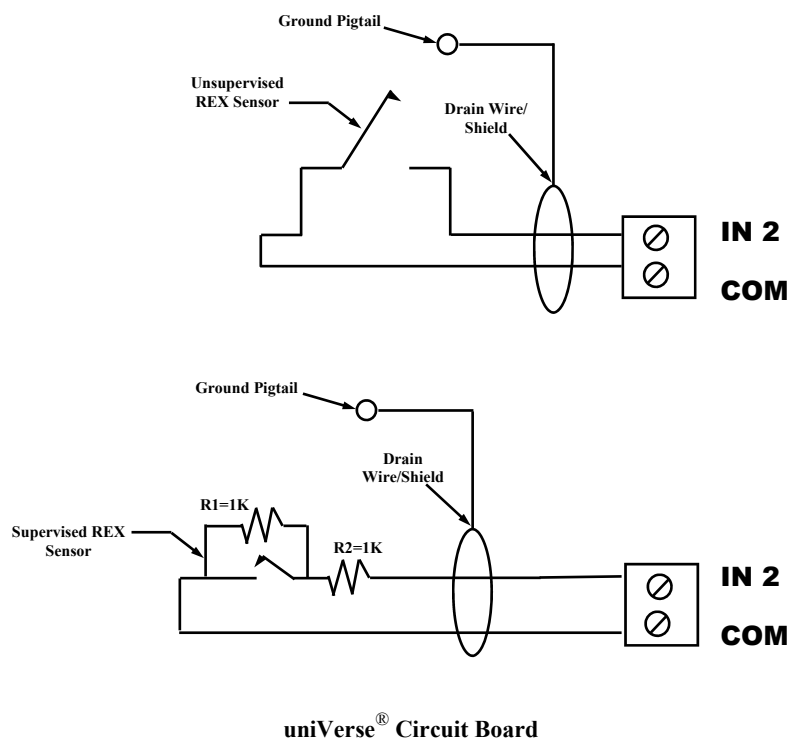

Figure 10 - Request-to-Exit Sensor to uniVerse® Connections. Plain (Unsupervised) Contacts, and Supervised Contacts
Request-to-Exit sensors (also known as Bypass sensors) work in conjunction with Door Status Sensors to provide complete facility entry and exit control. The Request-to-Exit sensor connects to the uniVerse® through any one of the four uniVerse® Input terminal strips. By default, Input 2 is used (see Figure 10).
Request-to-Exit sensors require a 22AWG, 2-conductor, stranded, shielded, cable with drain wire between the uniVerse® and the particular unit (see Figure 10).
2. Install R1 in parallel with the alarm contacts (see Figure 10).